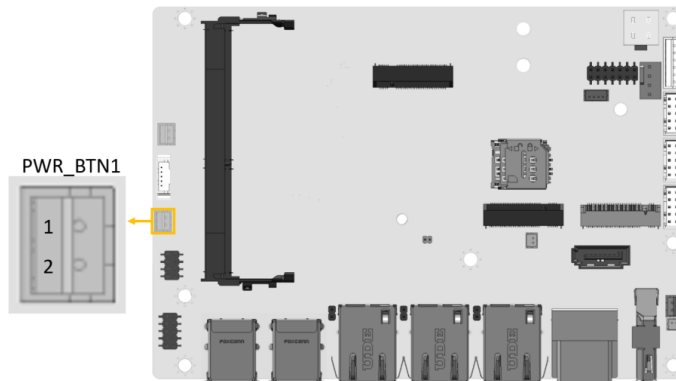

Figure 4-12: Power Button Connector Location
- CN Location:** See **Figure 4-12**